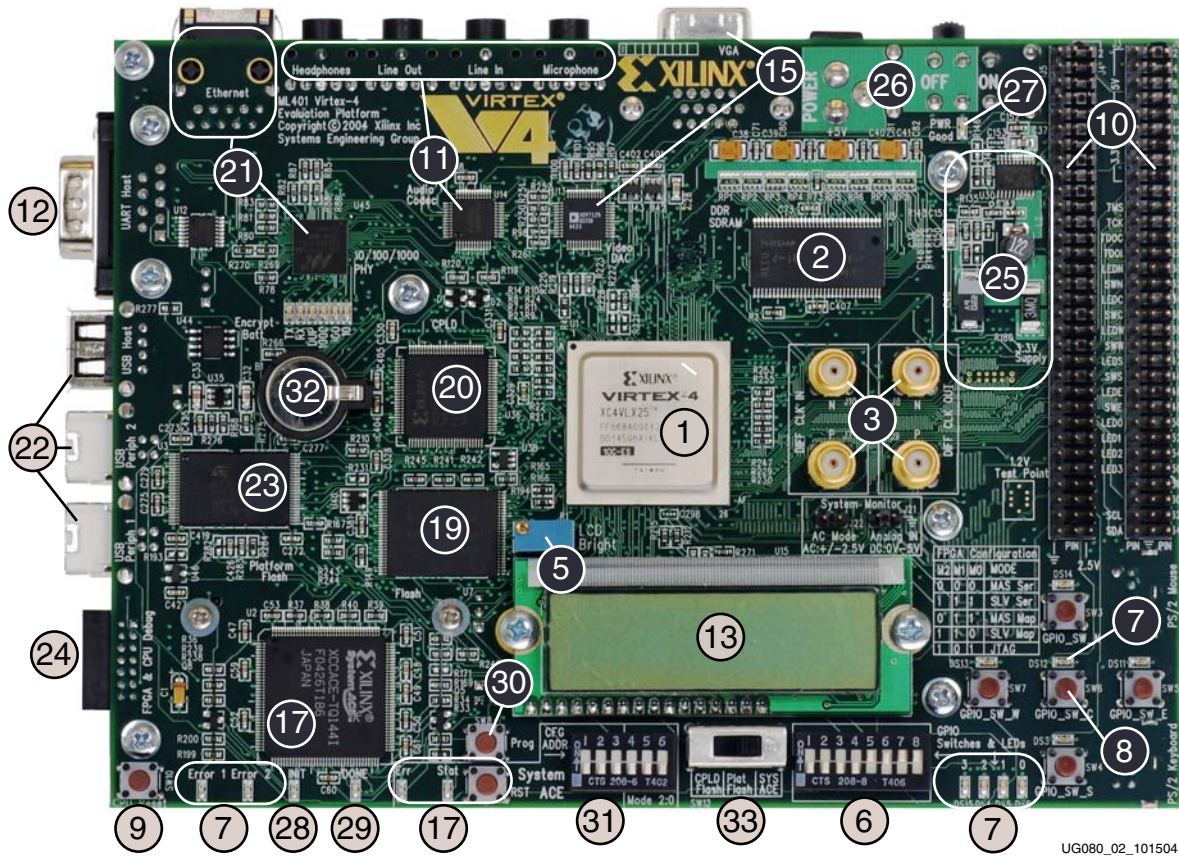
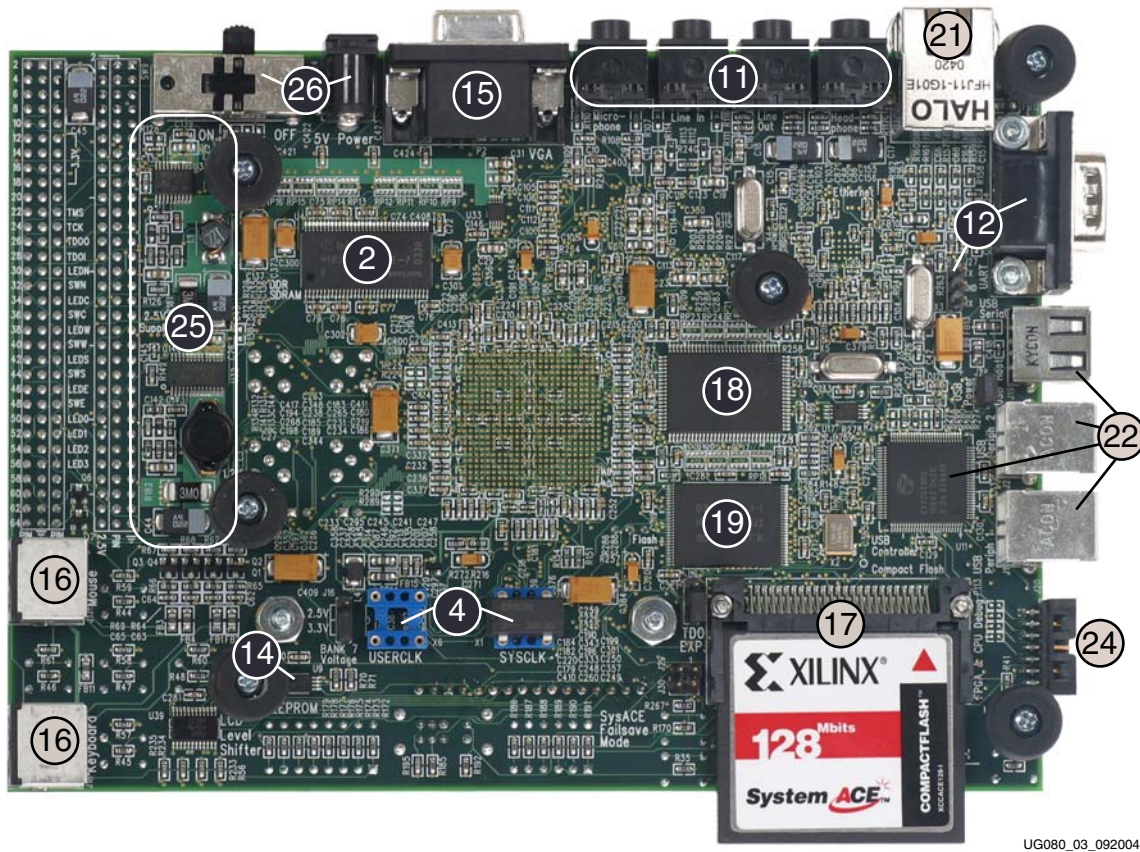

Figure 2: Detailed Description of Virtex-4 ML40x Evaluation Platform Components (Front)
Figure 3: Detailed Description of Virtex-4 ML40x Evaluation Platform Components (Back)
The ML40x evaluation platform (board) is shown in Figure 2 (front) and Figure 3, page 13 (back). The numbered sections on the pages following the figures contain details on each feature.
- Five green LEDs are positioned next to the North-East-South-West-Center oriented push buttons (only the *center* one is cited in Figure 2, page 12)